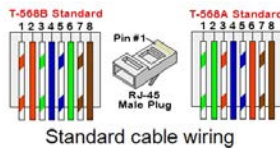

Figure 20: Standard cable wiring
- c. Insert the eight wires into an RJ45 connector (see *Figure 20*).
7. For the switch/router side, use a pre-terminated cable or use a crimper to prepare an RJ45 communication connector: Insert the eight wires into the RJ45 connector in the same order as above (see *Figure 20*).